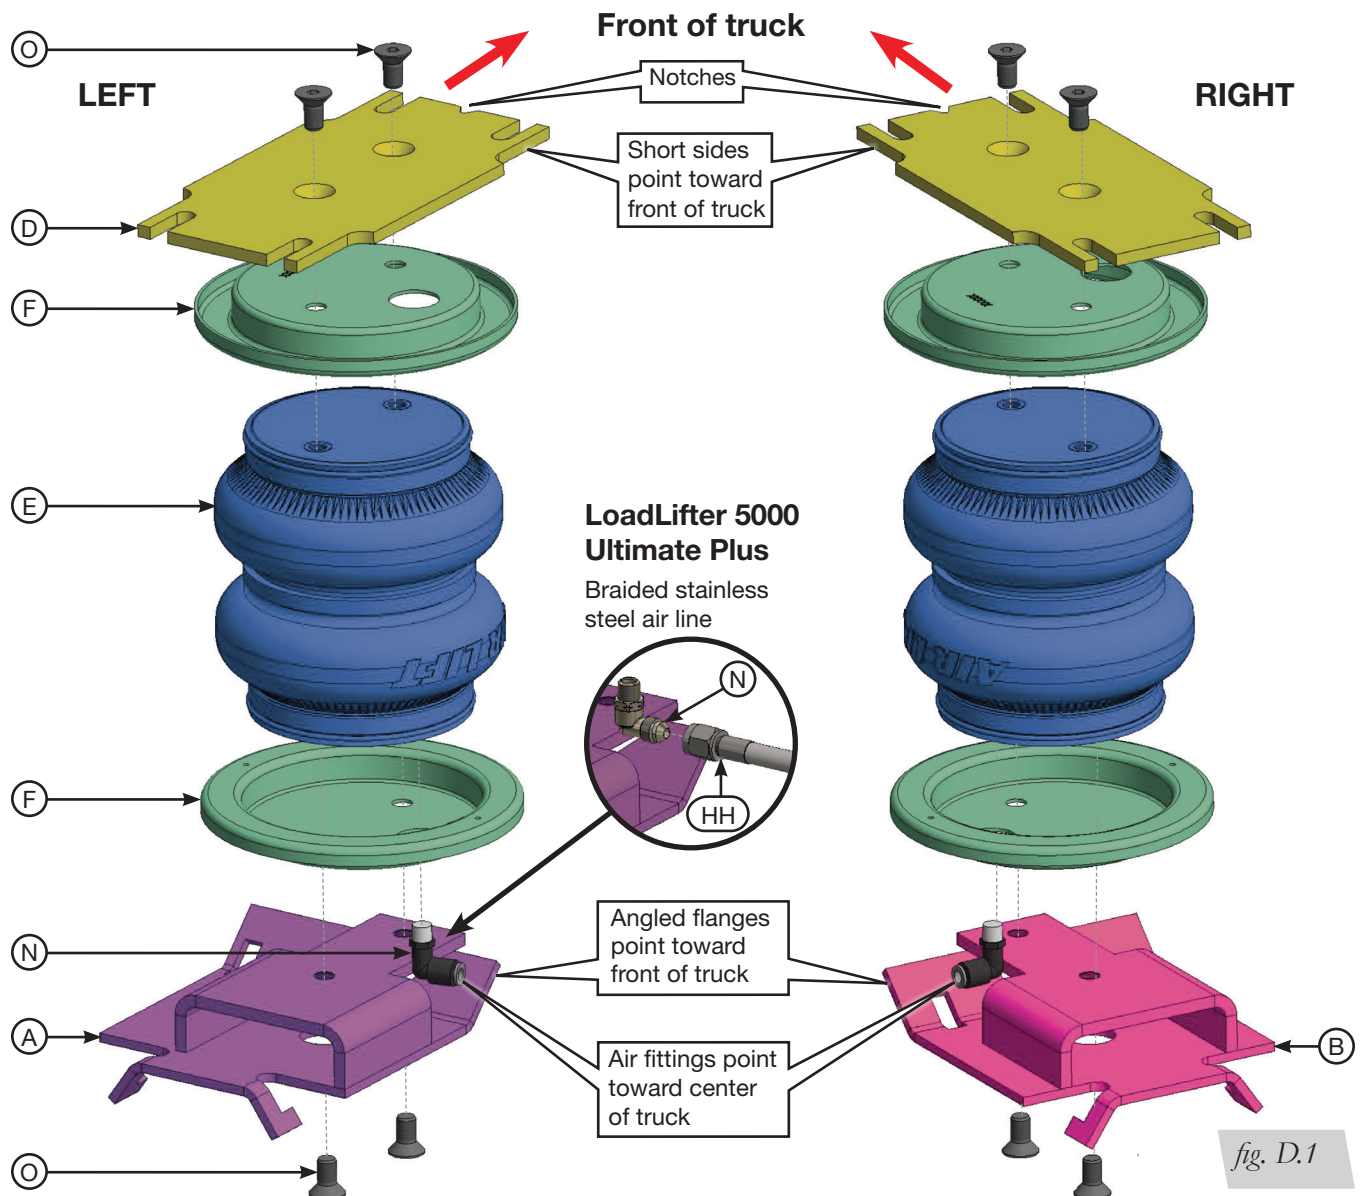

fig. D.1
1. Install the elbow swivel air fittings (N) on the air springs (E). Position the roll plates (F) on the air springs. (Fig. D.1). Tighten the air fittings finger tight plus 1 1/2 turns.
2. For LoadLifter 5000 Ultimate Plus, install the braided stainless steel air line (HH). Tighten the air line hex nut finger tight, then use 2 wrenches to turn 1 additional flat (1/6 of one full turn). **Do not overtighten.** For additional information on installing the braided stainless steel air line, see “F. Installing the Air Lines — Installing Braided Stainless Steel Air Lines.”
3. Use two 3/8”-24 x 3/4” flat-head socket screws (O) to attach the lower air spring brackets (A and B) to each of the air springs on the same side as the air fitting (Fig. D.1). Torque the screws to no more than 20 lb.-ft. (27Nm).
4. Use two 3/8”-24 x 3/4” flat-head socket screws to install the upper spring brackets (D) on the top of the air springs. The short side of the brackets with the notches need to point in the same direction as the angled flanges on the lower brackets. (Fig. D.1) Torque the screws to no more than 20 lb.-ft. (27Nm).